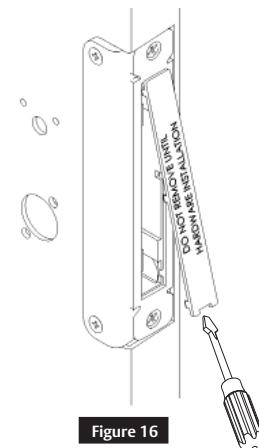

Figure 16
- Remove the mortise filler cap and discard. (Figure 16)